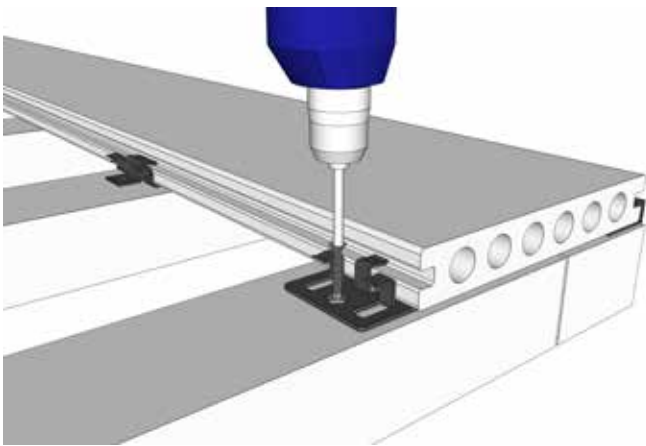

Figure 10
- 1 Fixed and movable fastener installation schematic, as shown in Figure 10: